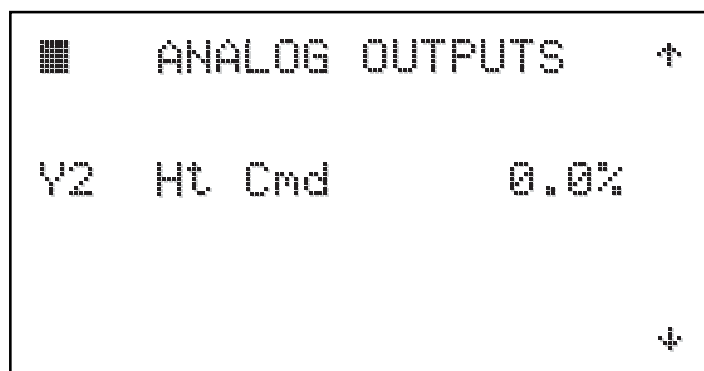

Figure 56
4.3.4.3.4 Analog Outputs (Figures 56 - 57)
This screen is provided for troubleshooting the control system. If the unit has been equipped with Modulating Heat, the Analog Outputs screen will look like Figure 56.